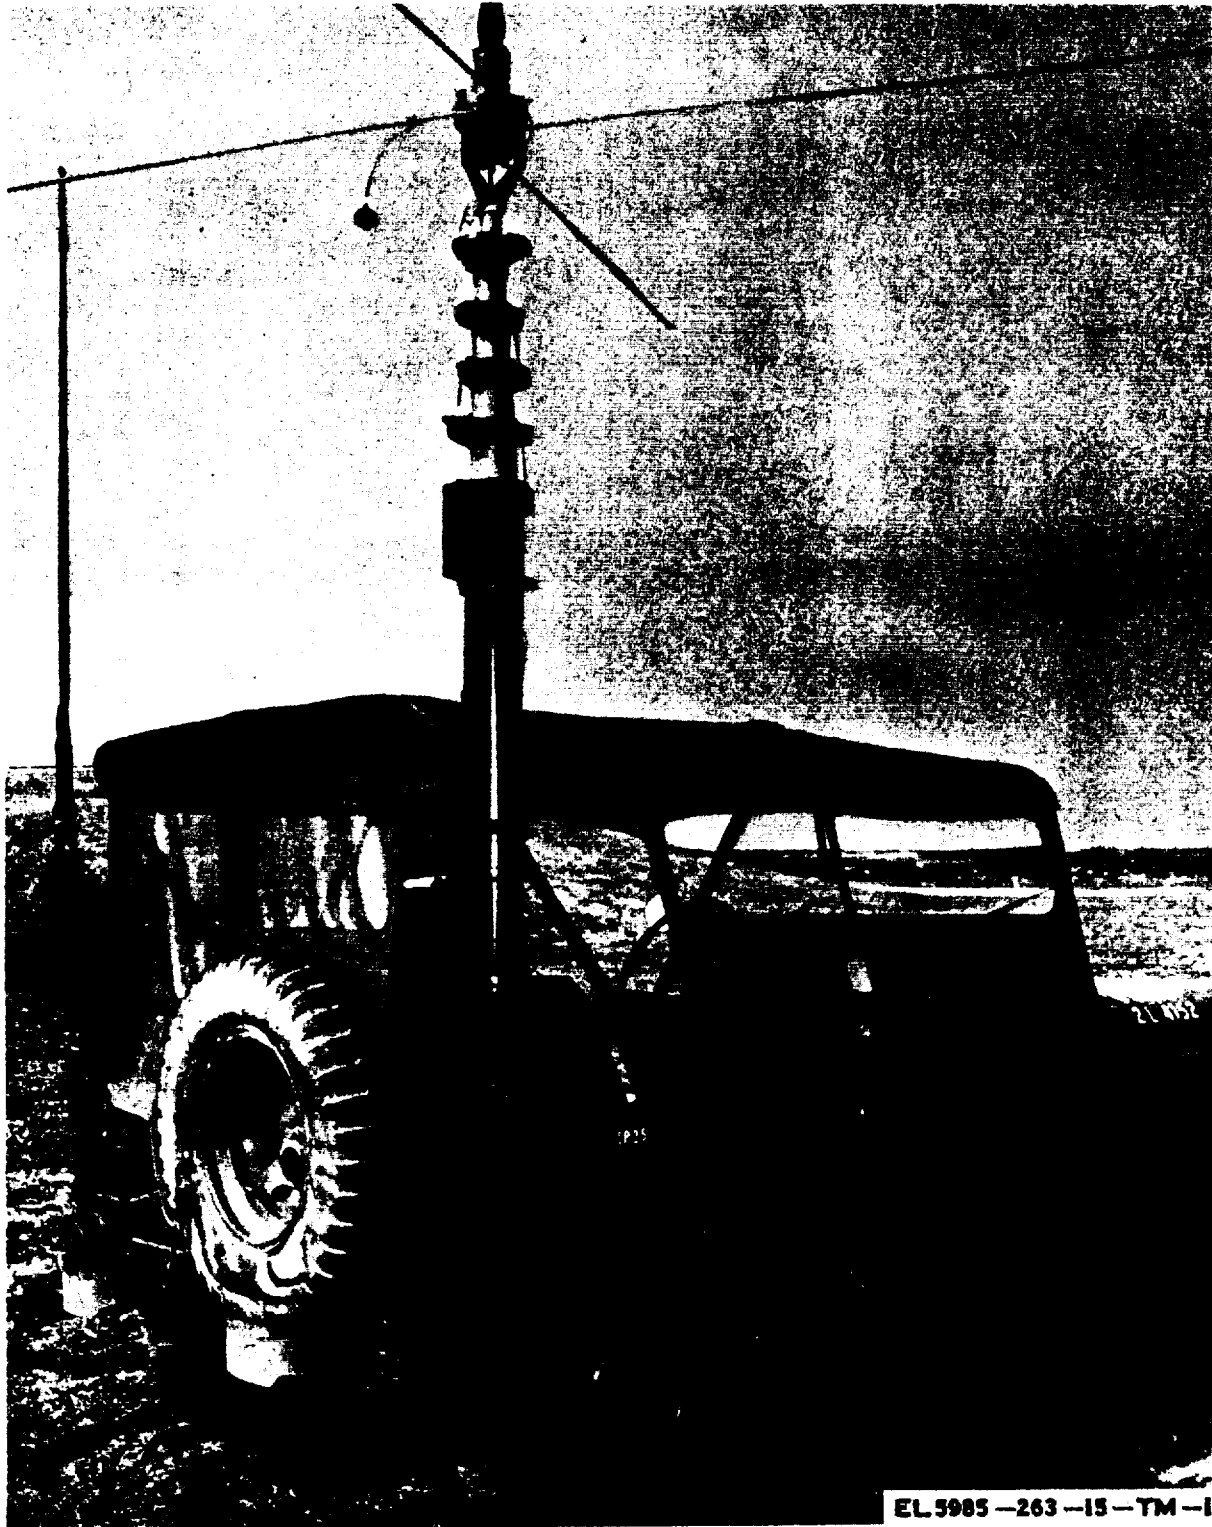

Figure 1-2. Typical vehicular installation of Mast AB-903/G.
The components of Mast AB-903/G are listed in the following table (figs. 1-2 and 1-3):
d. The mast may be used in ground installation or in vehicular operation. Ground installation and operation will be discussed in this manual. A typical vehicular installation in a M151A1 vehicle is shown in figure 1-2. For detailed vehicular installation, refer to pertinent manual for that vehicle.
b. Be sure that the mast is on the base plate so that the square hole in the bottom of the mast (fig. 2-2) engages the square projection on the base plate (fig. 1-2). Be sure that the mast is held vertically; use any necessary manpower until the lower guy ropes are secured to keep the mast erect.